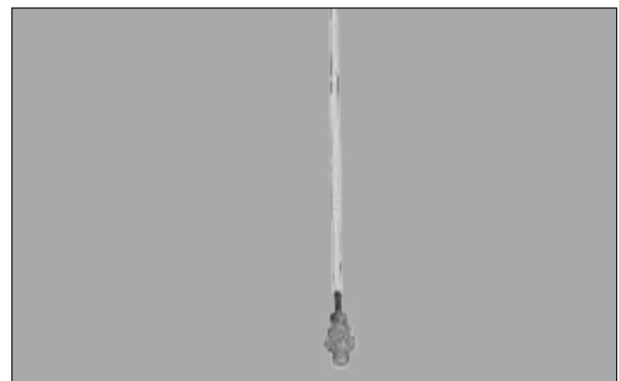

Fig. 8.14
- PVC shielding is provided to avoid damage to the tube. (Fig. 8.14)